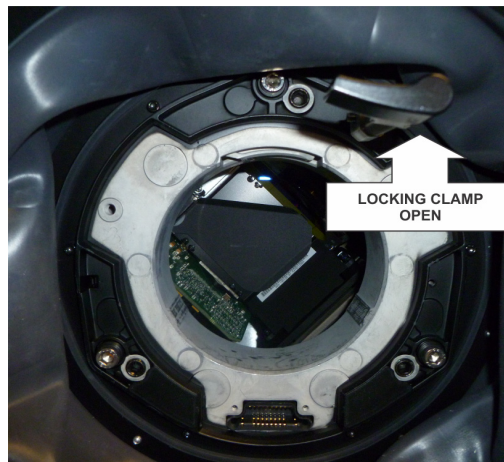

FIGURE 5-7
1. Rotate the lens clamp to the OPEN position, to remove old lens. See Figure 5-7.